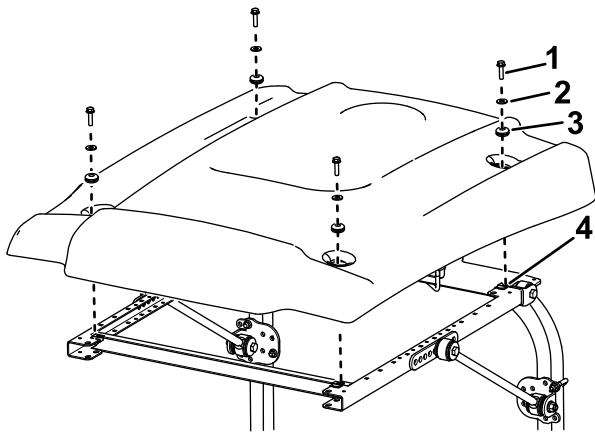

Figure 35
- While aligning the mounting holes, position the sunshade onto the frame as shown in Figure 35.
- Loosely mount each corner of the sunshade to the frame with a flange-head bolt (5/16 x 1 inch), a small washer, and a grommet (Figure 35).